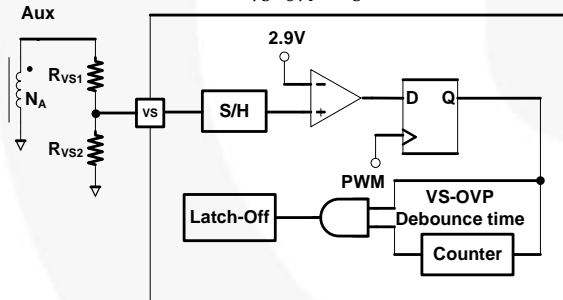

Figure 47. VS-OVP Protection Circuit
VS over-voltage protection prevents damage caused by output over-voltage condition. It is operated in Latch-Off mode. Figure 47 shows the internal circuit of VS-OVP protection. When abnormal system conditions occur, which cause VS sampling voltage to exceed V_{VS-OVP} (2.9 V) for more than 2 consecutive switching cycles (N_{VS-OVP}), PWM pulses are disabled and FAN602L enters Latch-Off protection. VS over-voltage conditions are usually caused by open circuit of the secondary side feedback network or a fault condition in the VS pin voltage divider resistors. For VS pin voltage divider design, R_{VS1} is obtained from Equation (10), and R_{VS2} is determined by the desired VS-OVP protection function as: